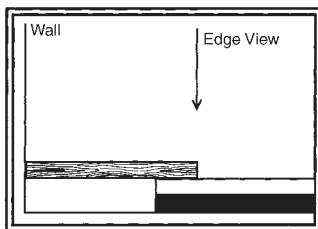

Fig. 26
- Place a loose plank directly over the top of the last full plank, making sure all edges are lined up. Use a whole plank as a measuring device. Position one edge against the wall and mark the loose plank with a pencil along the opposite edge (Fig. 26).